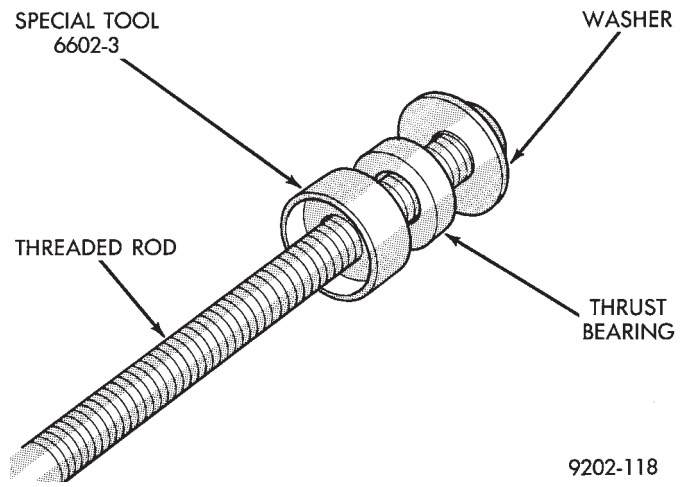

Fig. 5 Bushing Removal Tools
(1) Remove the special tools from the lower control arm that were used for the removal of the large pivot bushing.
(2) Remove the large Bushing Disc, Special Tool 6602-2 from the threaded rod. Leave the thrust bearing and washer on the threaded rod. Install the small Bushing Disc, Special Tool 6602-3 on the threaded rod and against thrust bearing (Fig. 5).